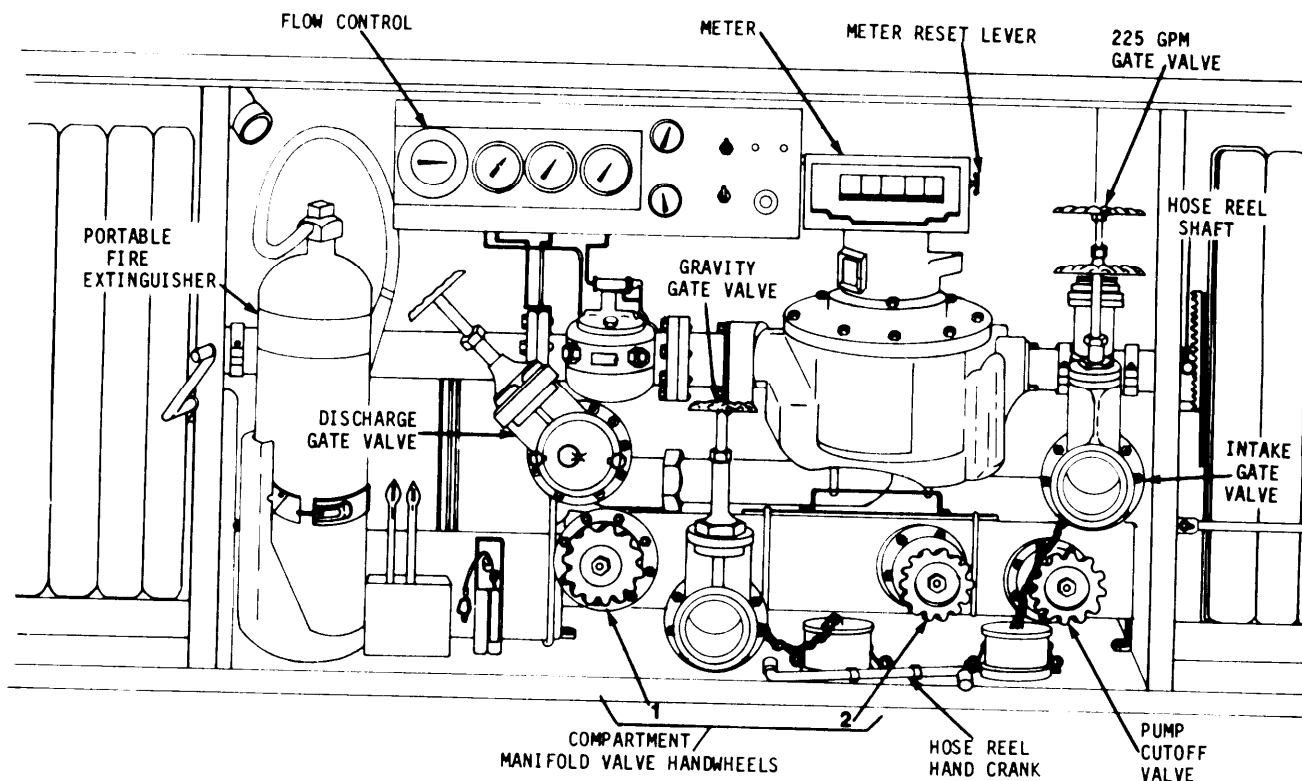

Figure 2-11. Forward roadside cabinet--M131A5C
*l. Defuel Cutoff Valve (fig 2-11 and 2-12).* This valve is used to control the fuel flow to the pump from the source being defueled.
*m. Meter Reset Lever* (fig 2-11 and 2-12). This lever is used to reset the meter delivery dial back to zero.
*n. Hose Reel Hand Cranks* (fig 2-11 and 2-12). These hand cranks are used to rewind the hose on the hose reels. When not in use, they are secured in clips on the cabinet floor.
(3) The M131A5C is equipped with three pressure gages mounted on the instrument and control panel (fig 2-11) to provide constant pressure readings at the inlet port, midsection, and outlet port of the filter-segregator case without the use of a selector valve. Pressure differential across the entire unit is the difference in pressure readings between FILTER INLET PRESSURE and FILTER OUTLET PRESSURE. Pressure differential across the first-stage elements is the difference in pressure readings between FILTER INLET PRESSURE and FIRST STAGE OUTLET PRESSURE. Pressure differential across the go-no-go fuses is the difference in pressure readings between FIRST STAGE OUTLET PRESSURE and FILTER OUTLET PRESSURE.
(4) Operating pressure readings should be taken and recorded at the start of the first operation of the filter-segregator unit and each day thereafter when the unit is operated.
(5) When changing from one type of fuel to another refer to FM 10-71, Petroleum Tank Vehicle Operation's, Table 8-1. Drain the filter segregator case and flush the entire pumping system with 50 gallons of the fuel to be transported. During the flushing operation, discharge the fuel alternately through both hose reel nozzles. Discard the flushing liquid in accordance with local regulations.